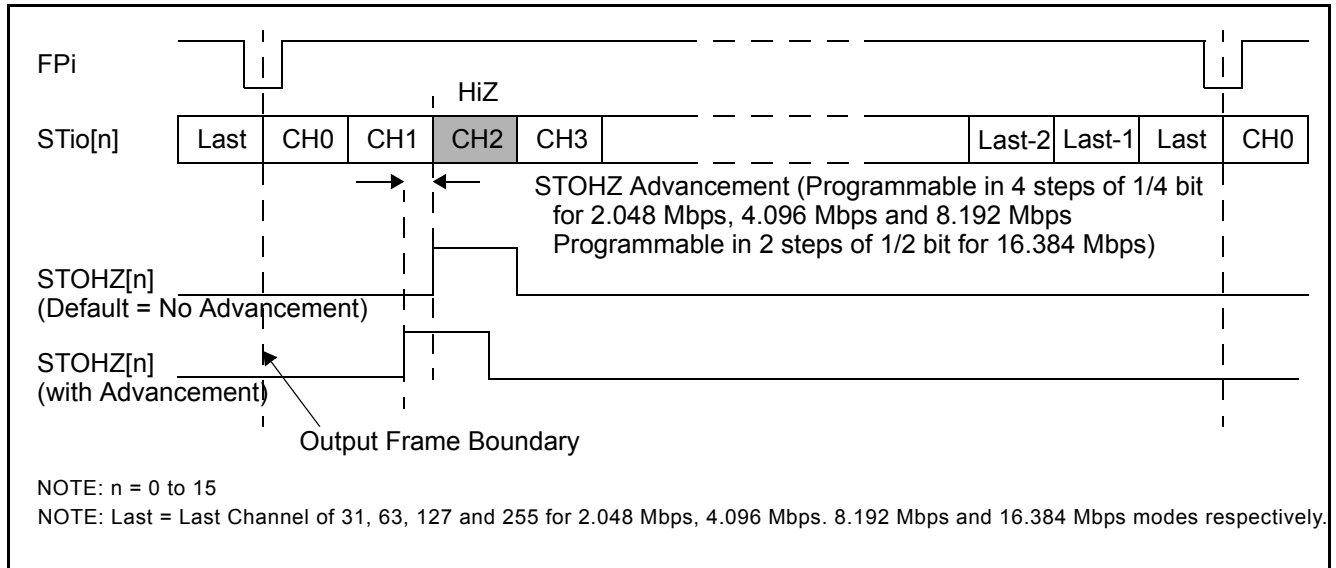

Figure 18 - Channel Switching External High Impedance Control Timing
There are 16 external high impedance control signals, STOHZ0 - 15, that are used to control the external drivers for per-channel high impedance operations. Only the first sixteen ST-BUS/GCI-Bus (STio0 - 15) outputs are provided with corresponding STOHZ signals. The STOHZ outputs deliver the appropriate number of control timeslot channels based on the output stream data rate. Each control timeslot lasts for one channel time. When the ODE pin is high and the OSB (bit 2) of the Control Register (CR) is also high, STOHZ0 - 15 are enabled. When the ODE pin, OSB (bit 2) of the Control Register (CR) or the RESET pin is low, STOHZ0 - 15 are driven high, together with all the ST-BUS/GCI-Bus outputs being tristated. Under normal operation, the corresponding STOHZ outputs of any unused ST-BUS/GCI-Bus channel (high impedance) are driven high. Refer to Figure 18 on page 33.